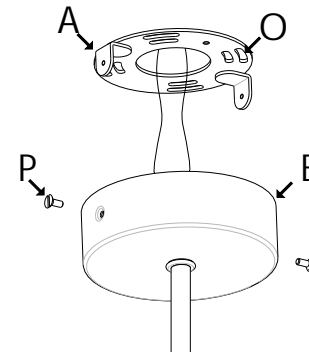

FIG.1
1. Screw plate "A" to the junction-box using holes "O" for that purpose. **FIG.1**
3. Place the mounting "B" over plate "A" and fix it in place using screws "P". **FIG. 1**